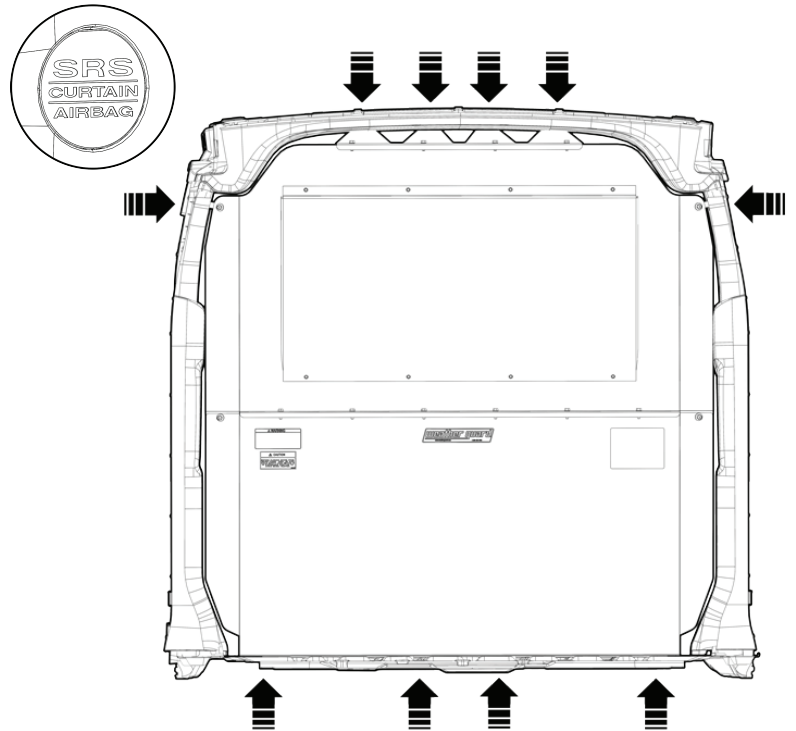

FIGURE 1. FACTORY MOUNTING LOCATIONS
STEP 1: Locate the ten attachment points on the van (FIGURE 1) There are four on the floor, one on each side of the B-pillars (under the SRS caps towards the rear of the van), and four on the roof of the vehicle (under the head liner).